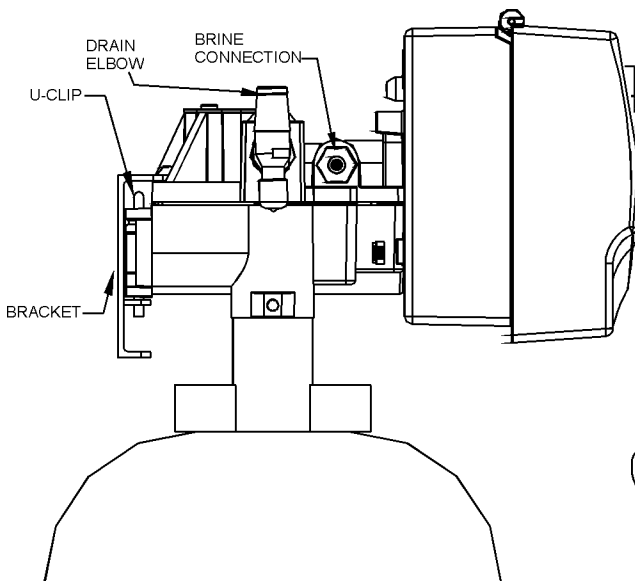
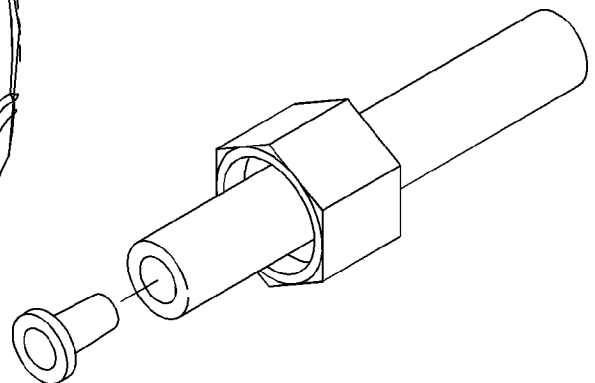

FIG. 6
FIG. 7
⚠ CAUTION: *When reinstalling back plate to control valve, make sure the u-clip fully engages the two bottom holes of the bracket (Figure 6). Secure bracket from the top with the two mounting screws provided.*
Refer to Figures 6 & 7.
- Slip the white nut over one end of the tubing and press the plastic insert into the end of the tubing (Figure 7). Connect to the brine valve and tighten nut.
- Slip the white nut over one end of the tubing and press the plastic insert into the end of the tubing (Figure 7). Connect to the brine connection on the valve and tighten nut (Figure 6).